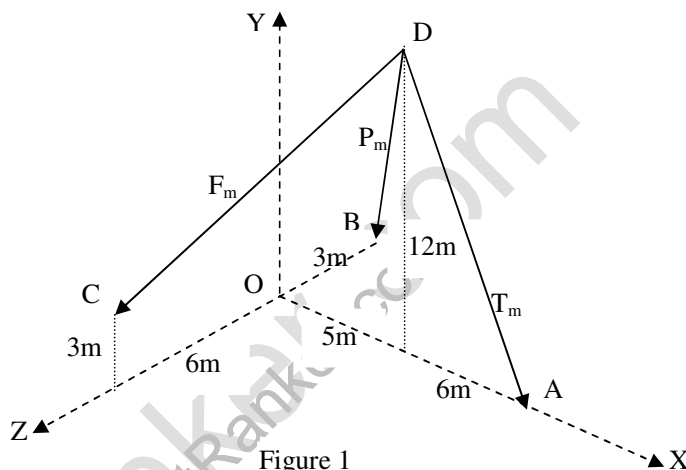

Figure 1
1. a) A tripod consists of three bars joined at D as shown in Fig.1. Find the component of force F along the direction T and the angle between F & T.
b) Compute the horizontal component and its direction from X axis of resultant force of the force system  $T = 400$  N,  $P = 200$  N and  $F = 650$  N directed from D towards A, B and C respectively acting as shown in Figure 1. (8M+7M)